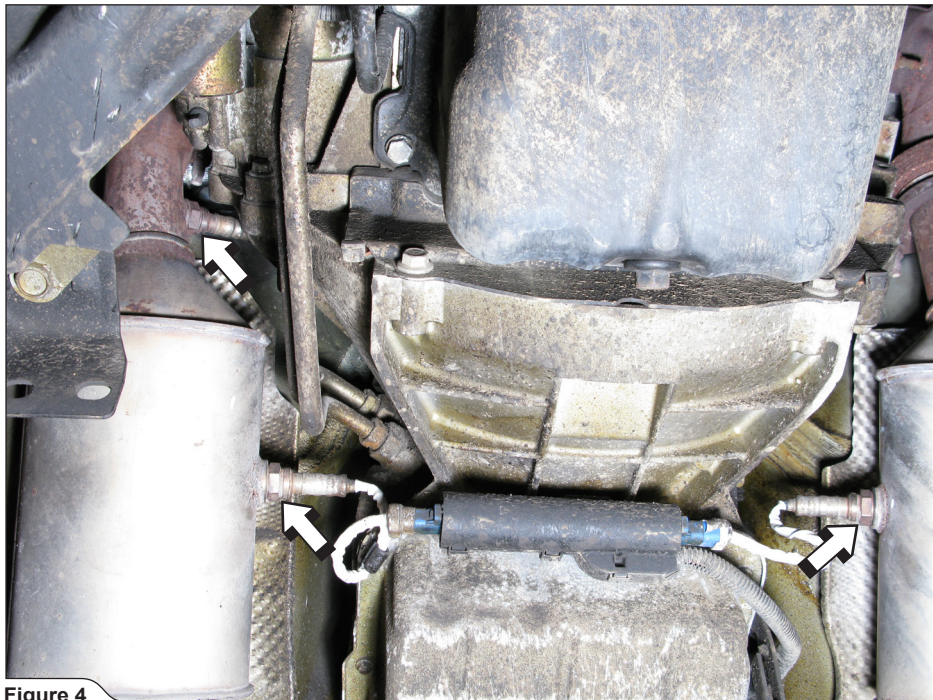

Figure 4
4. For Evolution only: unscrew three marked lambda sensors (Figure 4).